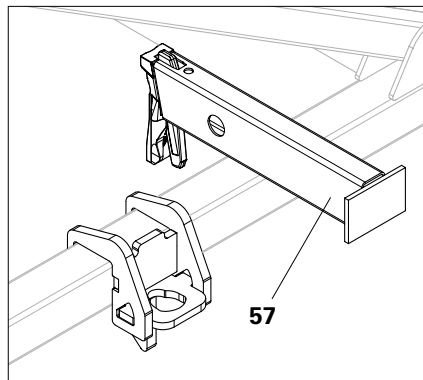
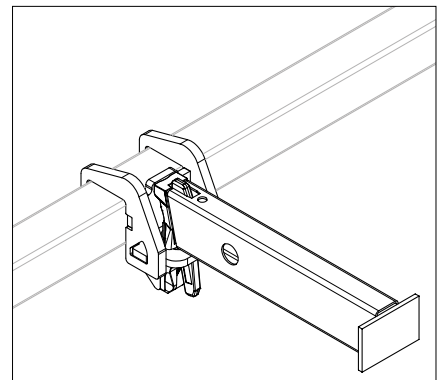

Fig. A11.10d
Fig. A11.10e
3. Fit the Support UC 33 (**57**) in the ledger-to-ledger coupler and hammer in wedge tightly. (Fig. A11.10d + Fig. A11.10e)